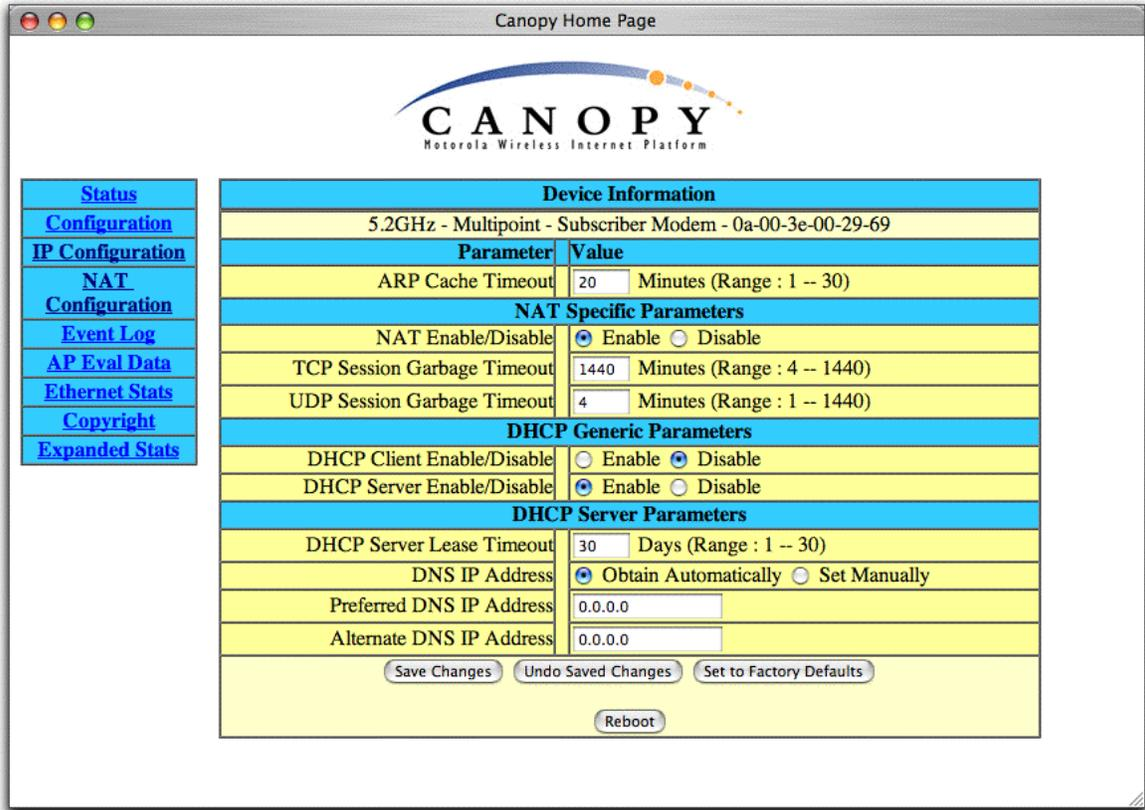

Figure 47: NAT Configuration screen, NAT with DHCP server
- Figure 47 on Page 103 for the NAT with DHCP Server implementation.